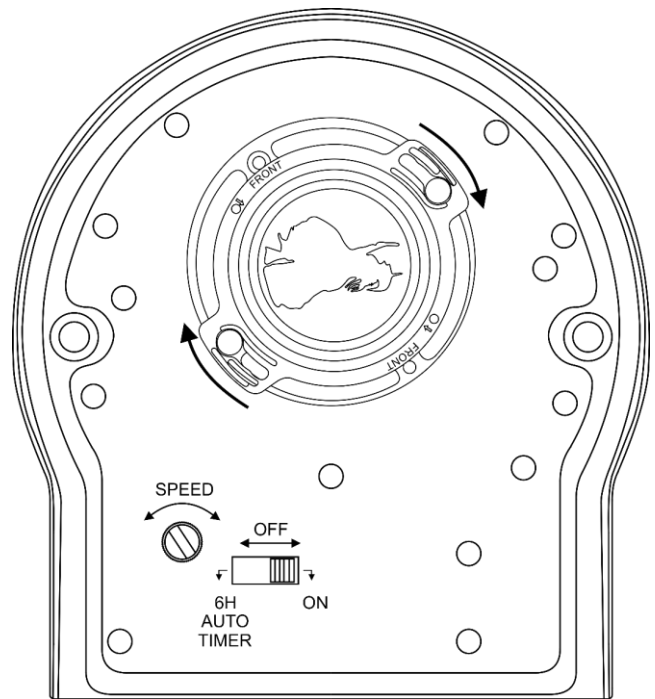

Fig. 06
03) Turn the gobo to secure it in position (fig. 06).